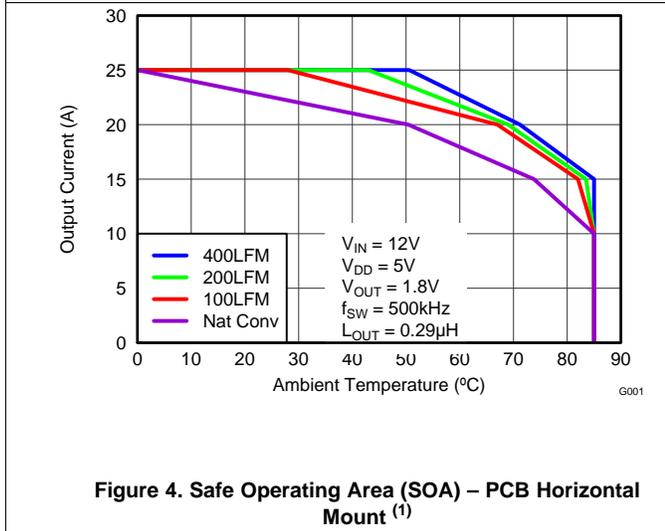
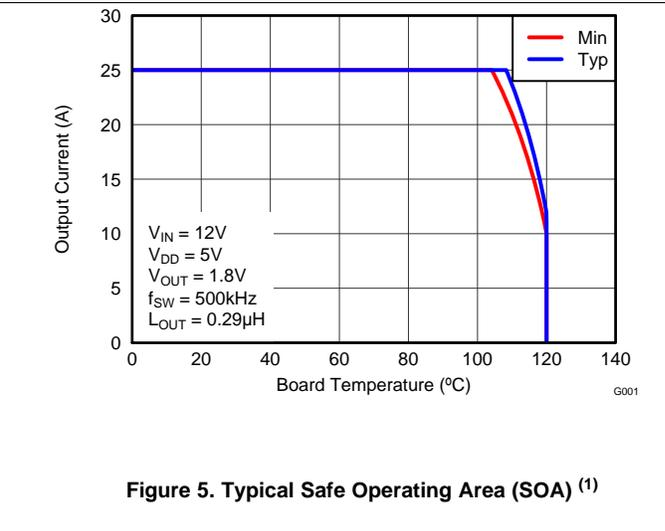

Figure 4. Safe Operating Area (SOA) – PCB Horizontal Mount (1)
Figure 5. Typical Safe Operating Area (SOA) (1)
The SOA curves in the CSD95375Q4M datasheet give engineers guidance on the temperature boundaries within an operating system by incorporating the thermal resistance and system power loss. Figure 4 and Figure 5 outline the temperature and airflow conditions required for a given load current. The area under the curve dictates the safe operating area. All the curves are based on measurements made on a PCB design with dimensions of 4" (W) × 3.5" (L) × 0.062" (T) and 6 copper layers of 1 oz. copper thickness.